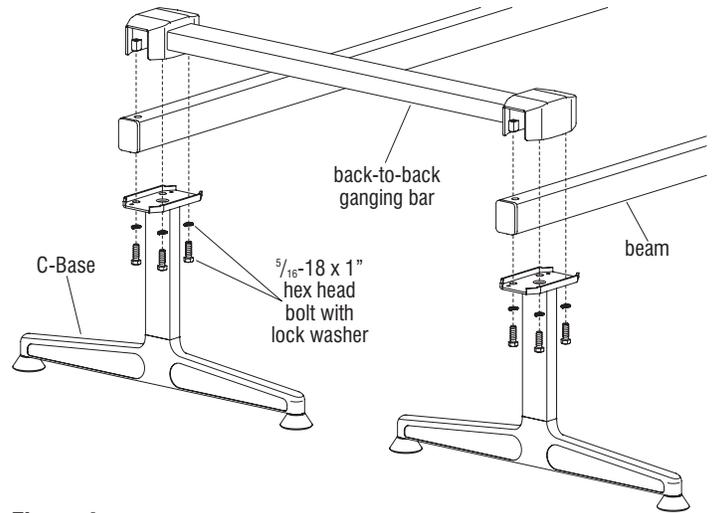

Figure 4
21. Set the beams that are to be ganged back-to-back onto the "yolk plates" of the C-bases. Make sure the cover plates have approximately $7\frac{1}{2}$ " of beam extending beyond them when installing a back-to-back ganging bar near the ends of the beams (Figure 4).
22. Place the ganging bar over the beams and C-bases as illustrated. Attach each end of the ganging bar to the appropriate C-base from underneath with four $\frac{5}{16}$ -18 x 1" hex head bolts and lock washers. Torque bolts to 21 ft/lbs in a diagonal pattern (Figure 4).